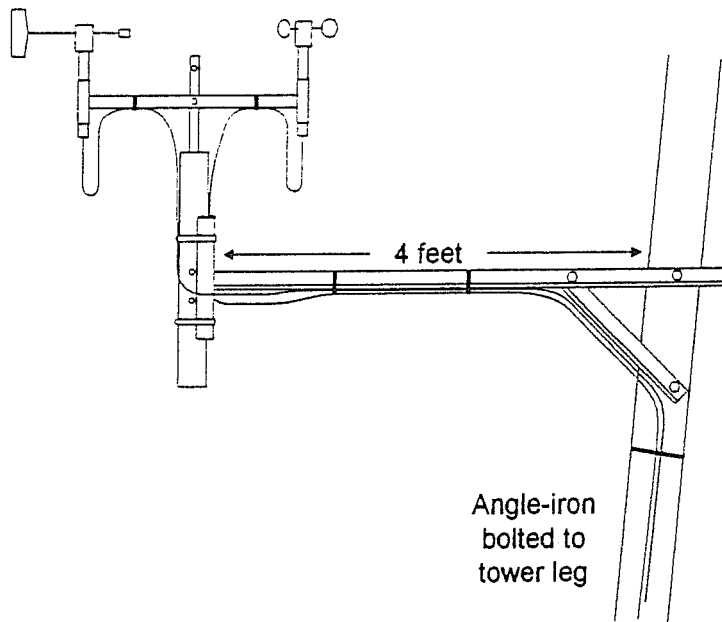

Figure 5-9
- Attach the wind sensor cables and leave a drip loop below each sensor. Tape or tie wrap the cables to the support bracket and the tower. Figure 5-9 shows a completed assembly.